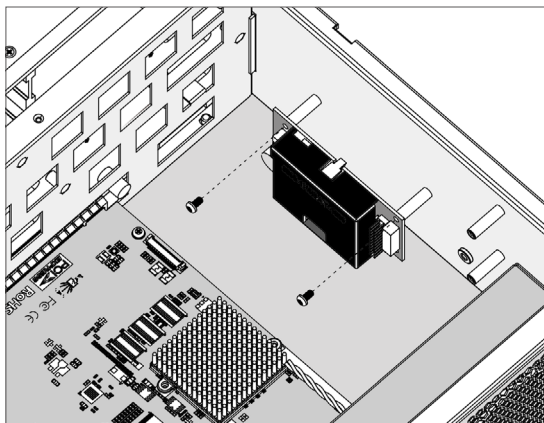

Figure C-6, Secure the Battery Module
2. After removing the cover, then secure the battery pack module (ARC-6120-BAT-12G, reference NO.1 in Figure C-1) on the right side within the enclosure (for ARC-7216), as shown in Figure C-6.